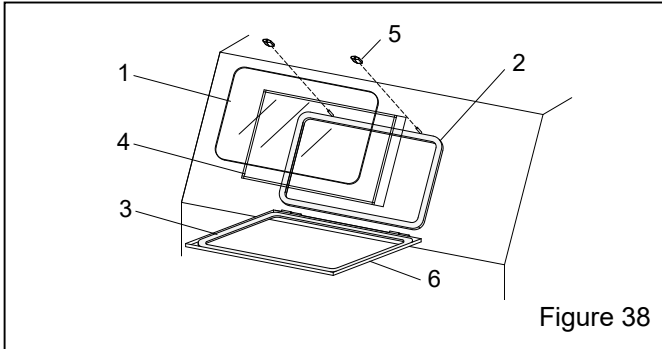

Figure 38
9.3 View-Window Assembly – Figure 38